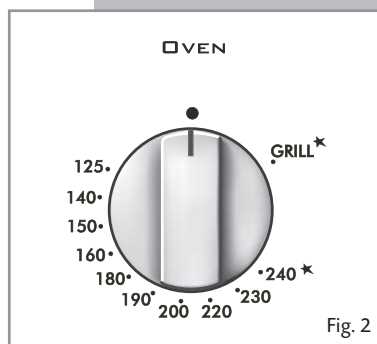
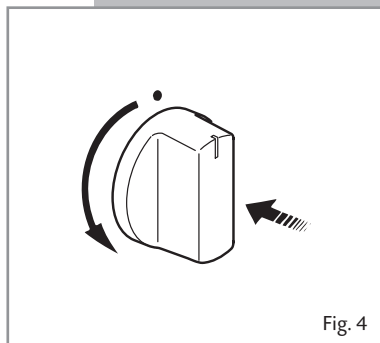

Fig. 2
Fig. 4
The values from 125° to •240★ printed on the fascia panel around the thermostat knob (fig. 2) show in a growing sequence the oven temperature in °C.
- 2 – Press the thermostat knob (fig. 2) thoroughly to start up the electric ignition and, keeping the knob under pressure turn it anti-clockwise (fig. 4) to position **•240★**.